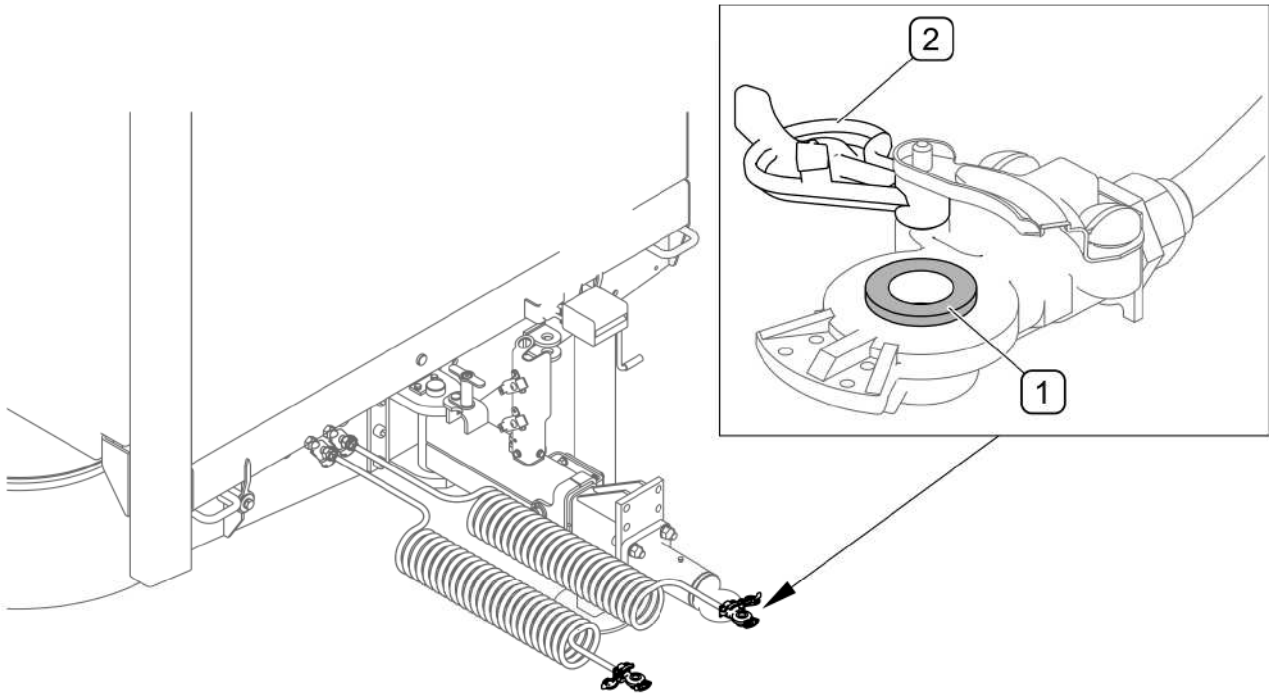

FIG. 5.27 Line connections
(1) - rubber seal; (2) - security cover
Pneumatic system connections (FIG. 5.27) must be inspected on regularly during use of machine and if necessary cleaned of all contamination. Particular attention should be paid to the technical condition of security covers (2) and rubber seals (1). If these elements are damaged they should be replaced. Contact of the seals with fuel, lubricants being petroleum derivatives, paints etc., causes rapid ageing of the material from which they are made. Before the winter period, it is recommended to preserve seal (1) with special preparations. (e.g. silicone preparations). Each time before connection of the machine inspect technical condition and cleanness of contacts and sockets in carrying vehicle. If necessary clean or repair sockets.